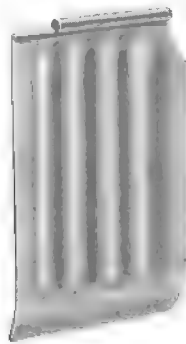

Fig. 66—P-296792 Coin Shield
- (1) Place P-247411 pin through tubular bearing at top of P-296792 shield. Curved-in portion on bottom of shield is toward hopper when loop of pin is to the front (see Fig. 66).
(2) Hold loop of pin with long nose pliers or fingers and place coin shield pin in hole in rear of hopper.
(3) Hold shield in place with fingers and secure end of loop in front hole of hopper with long nose pliers.
(4) Adjust loop so that pin does not come out when play is taken up in either direction.
(5) Check operation of shield.